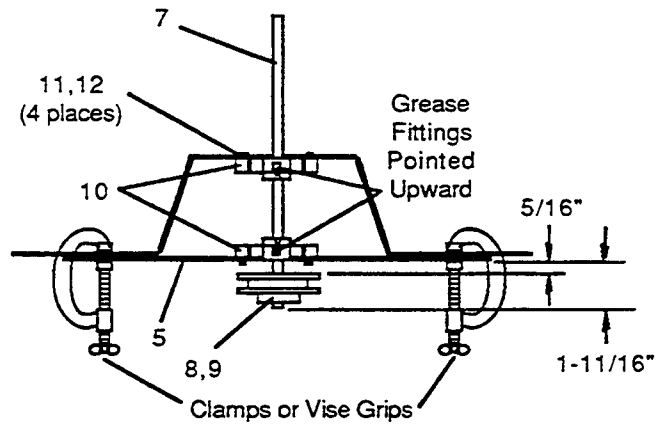

Figure 86
13. Install pulley (Item 8) on fan shaft and position fan shaft per dimension shown in Figure 86. Align the two flats per bearing which are machined on fan shaft for the bearing set screws. Use High Temperature Loctite, R/C 620 on bearing set screws and then tighten set screws. Recheck fan shaft for free rotation.